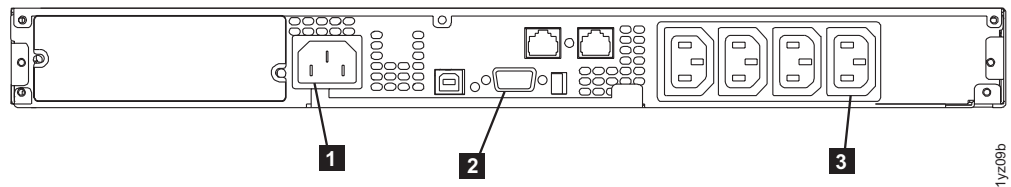

Figure 26. 2145 UPS-1U (rear view)
7. At the back of the 2145 UPS-1U, plug the 2145 UPS-1U main-power connector into the power socket (1 in Figure 26). The 2145 UPS-1U is in standby mode, so all indicators are off.